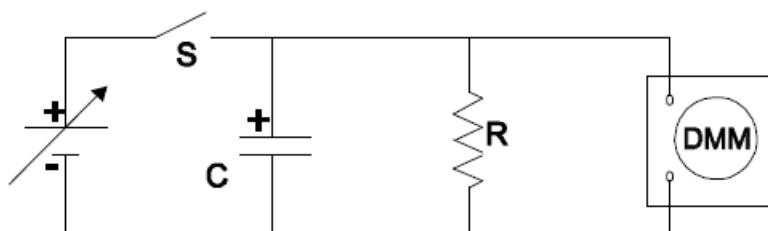

Figure 1
You will measure the voltage across a capacitor as a function of time as the capacitor discharges through a resistor. The simple circuit you will use is shown in Figure 1. The capacitor, C , is an electrolytic capacitor of approximately $1000\ \mu\text{F}$ or $10^{-3}\ \text{F}$, with a manufacturing tolerance of $\pm 20\%$. The resistance of the resistor, R , is $100\ \text{k}\Omega$ (10^5 ohms), with a tolerance of $\pm 5\%$. DMM represents the digital multimeter used to measure DC voltage across the capacitor. The idea is simple: by closing switch S , you will charge up the capacitor to approximately 10 volts using the adjustable power supply. The capacitor is connected in parallel with a resistor, so that when you open the switch the capacitor will begin discharging through the resistor. Using a stopwatch and multimeter, you will record the capacitor voltage every 20 seconds until the capacitor has almost completely discharged. The goal is to examine the *exponential decay* of this RC circuit.
- 2 Again, make sure the capacitor is fully discharged. Assemble the circuit shown in Fig. 1 using banana plug cables. NOTE THE CAPACITOR HAS + AND - LEADS. Be sure the + end is connected to the positive (RED) connector on the power supply and the - end is connected to the negative (BLACK) connector.